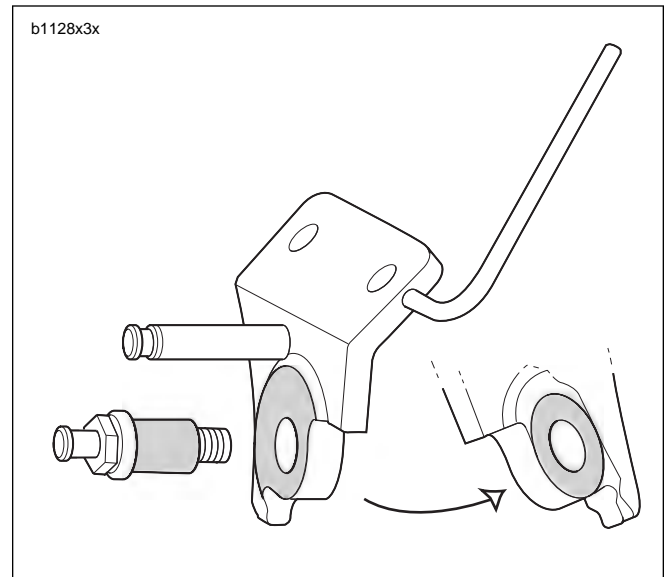

Figure 2-139. Lubricating Points (Shaded Areas)
1. Install sidestand leg (1).
- a. See Figure 2-139. Lubricate sidestand pivot bolt and mating portions on sidestand bracket with WHEEL BEARING GREASE (Part No. 99855-89).